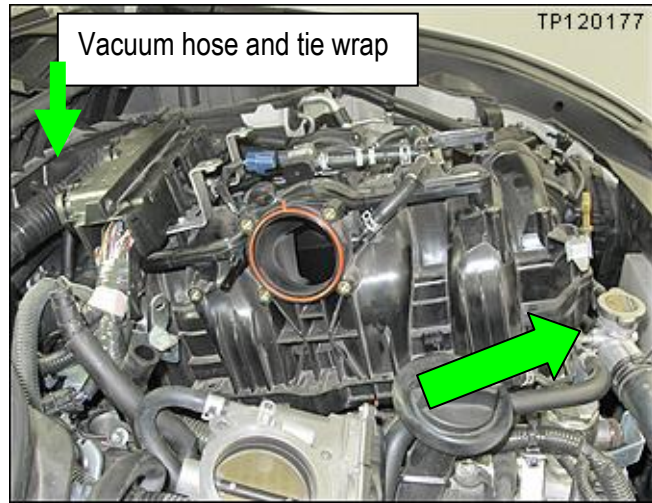

Figure 15m
- a. Look behind the intake manifold (see Figures 15m and 16m) and locate the hose.
- a. Look behind the intake manifold (see Figure 15m and 17m) and locate the tie-clip.